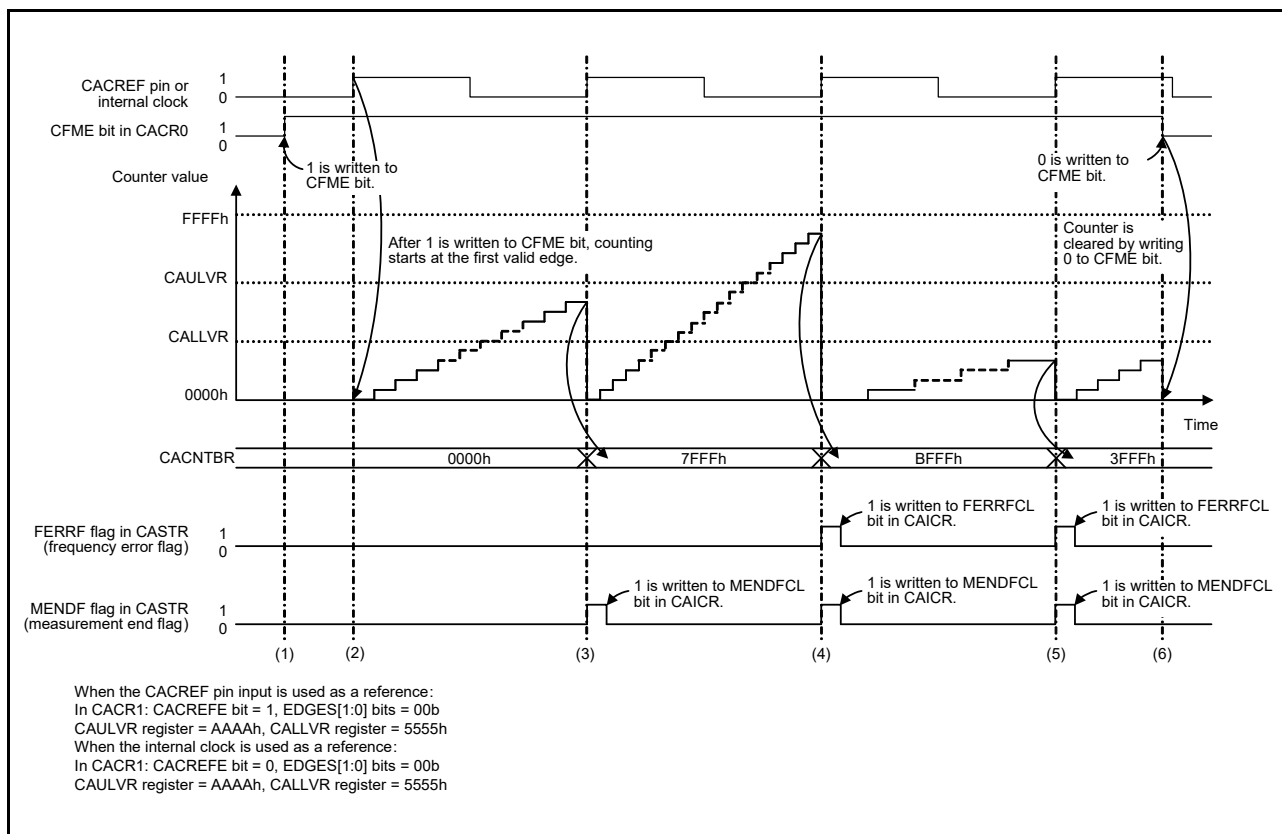

Figure 10.2 CAC operating example
The CAC measures the clock frequency using the CACREF pin input or the internal clock as a reference. Figure 10.2 shows an operating example of the CAC.
2. The timer starts counting up if the valid edge selected in the CACR1.EDGES[1:0] bits is input from the measurement reference clock. The valid edge is a rising edge (CACR1.EDGES[1:0] = 00b) as shown in Figure 10.2.